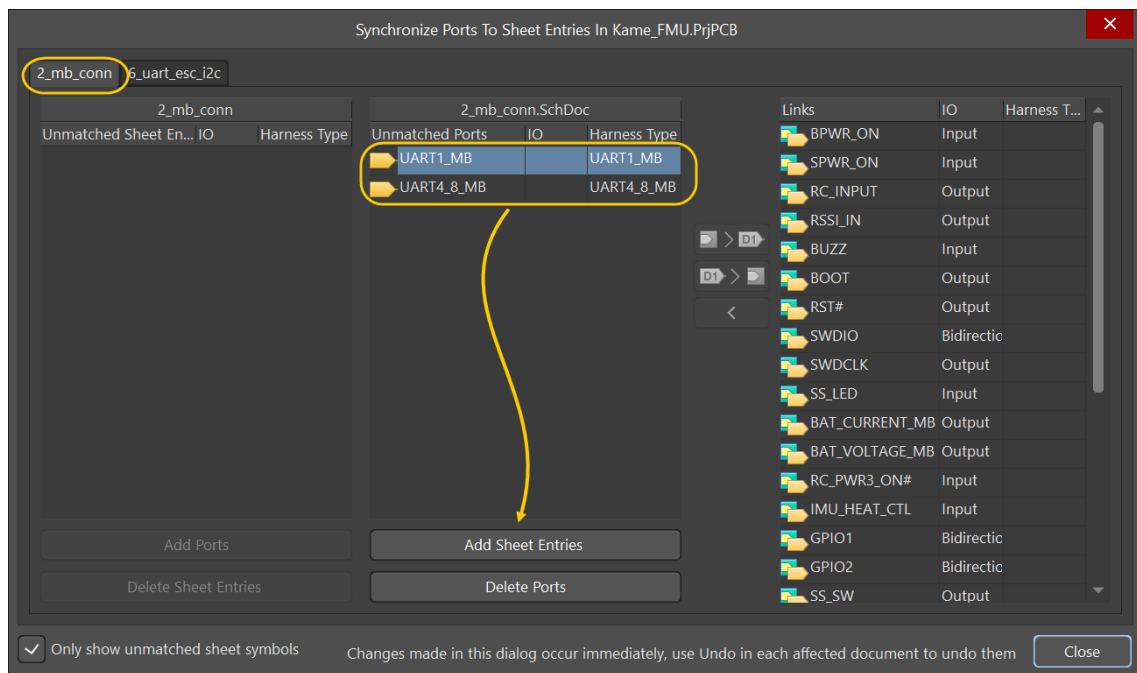

Figure 28. Placing Sheet Entries for 2\_mb\_conn
62. Select the 2\_mb\_conn tab as shown in Figure 28.